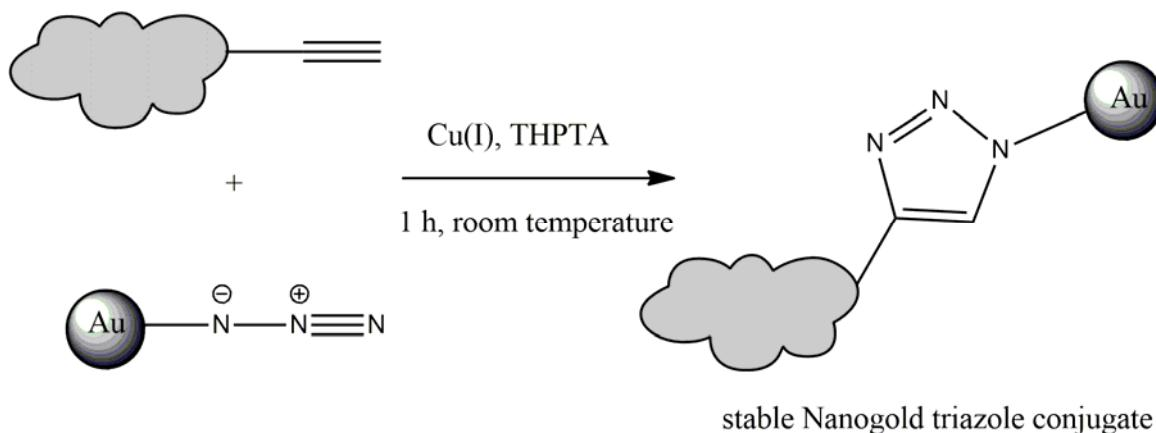

Figure 1: Schematic showing Mono-Azido-Nanogold® labeling of an alkyne via 1,3-dipolar cycloaddition catalyzed by copper, Cu(I).
Nanogold® is a specially developed gold label, prepared using a discrete gold compound rather than a colloid.¹ This kit contains the Nanogold® particle with an azido functionality incorporated into a ligand on the surface of the gold particle; this specifically reacts with an alkyne to form a 1,2,3-triazole in a 1,3-dipolar cycloaddition catalyzed by copper (I)^{2,3} (Figure 1). The advantage of the copper-catalyzed azide-alkyne cycloaddition (CuAAC) reaction is that it is biorthogonal: azides and alkynes react selectively only with each other, and not with any naturally occurring cellular components. The copper, Cu(I), is generated *in situ* from Cu(II) using a reducing agent, or sodium ascorbate in the presence of accelerating ligands such as tris(3-hydroxypropyltriazolymethyl) amine, THPTA.⁴ The water-soluble THPTA click ligand binds Cu(I), protects against histidine oxidation, and intercepts reactive oxygen species, affording biological compatibility for Click reactions.⁵ The THPTA ligand has been used to label live cells effectively with high efficiency while maintaining cell viability.⁶